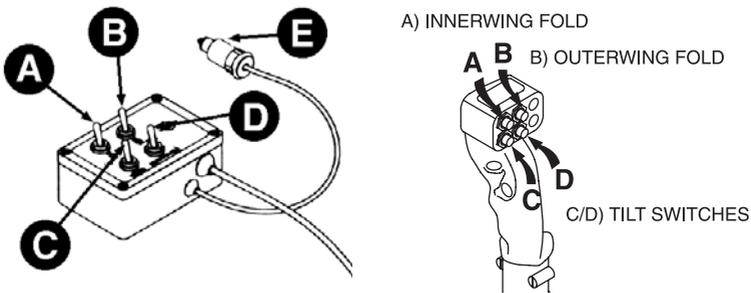

Fig. 8
1. Activate switch (C)(Fig. 8) and move hydraulic handle forward or rearward to tilt left hand boom up. To tilt the right hand boom, activate switch (D)(Fig. 8). Switch positions of the hoses in the double acting outlet if you do not like the direction required to activate the boom.
2. Activate switch (C)(Fig. 8) upwards and hold to tilt left hand boom up. (Holding the switch in the down position will tilt the boom down.) To tilt the right-hand boom activate switch (D)(Fig. 8).